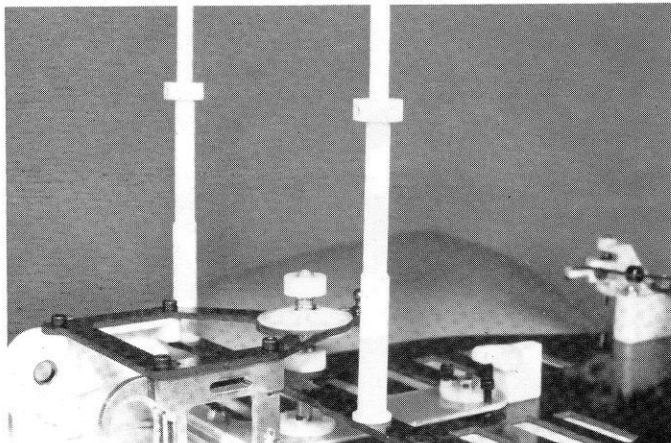

**Fig. 40**
**Fig. 40**— After the car is completely assembled, the two collars should be adjusted so both springs are collapsed exactly the same amount—about a .200" gap at each spring. We'll have to adjust this later when we come to Fig. 77. Do not check off the square yet.